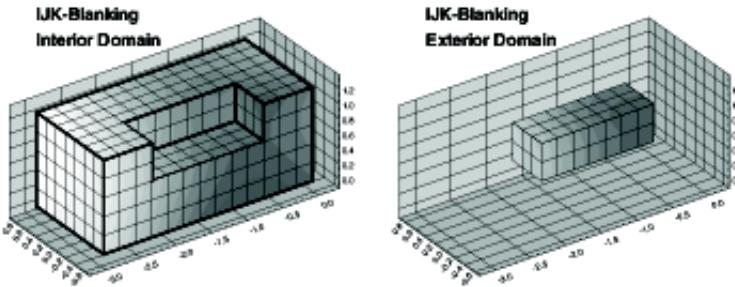

Figure 19-10. IJK Blanking with Interior domain (left) and Exterior domain (right).
- **Interior** - Cells within the specified index ranges are blanked. Those outside are plotted. This creates a “hole” in the zone. The left side of Figure 19-10 shows an ordered zone with IJK Blanking with Interior domain.
- **Exterior** - Cells outside the specified index ranges are blanked. Those inside are plotted. Exterior plots a sub-zone of the zone. The right side of Figure 19-10 shows an ordered zone with IJK Blanking with Exterior domain.